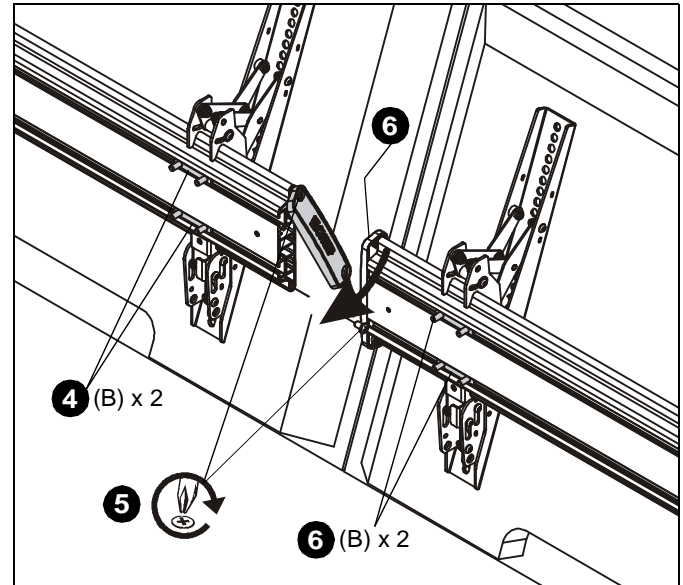

Figure 2
4. Insert two T-slot nuts (B) into rail. (See Figure 2)
5. Rotate end cap back into position and fasten with screws loosened or removed in Steps 2 and 3. (See Figure 2)
6. Repeat Steps 4 and 5 for end of adjacent rail. (See Figure 2)